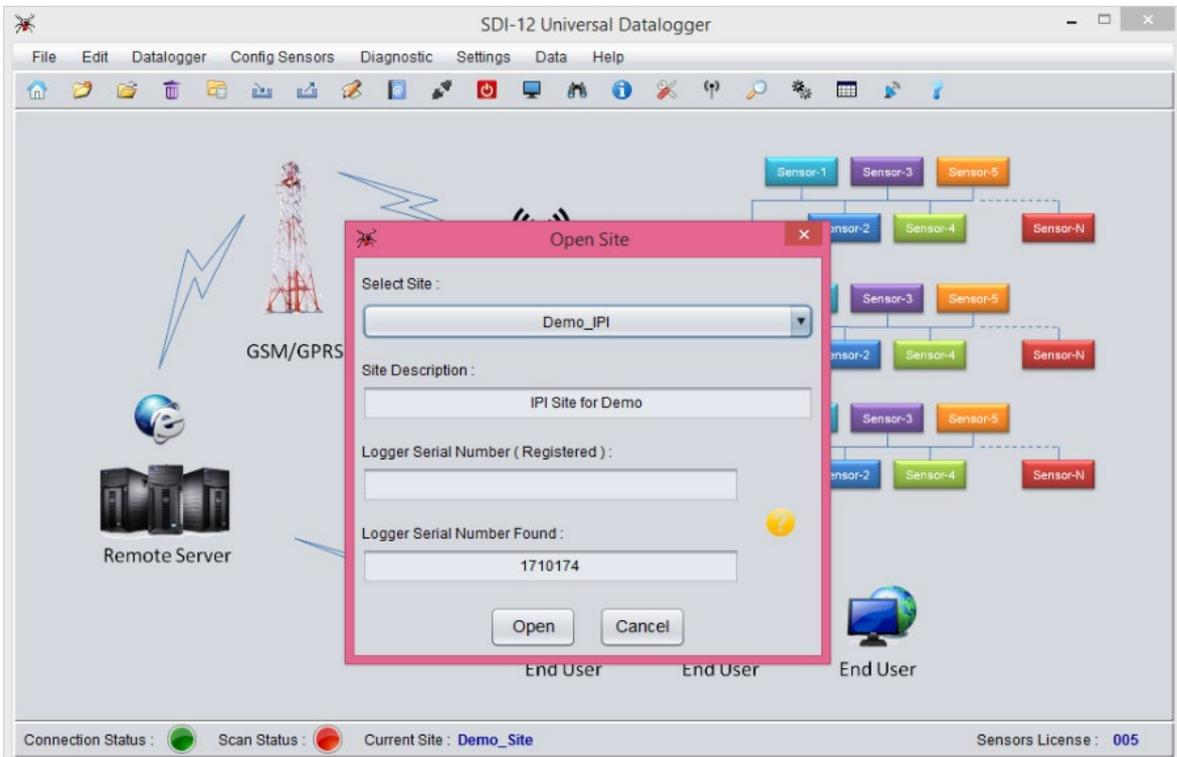
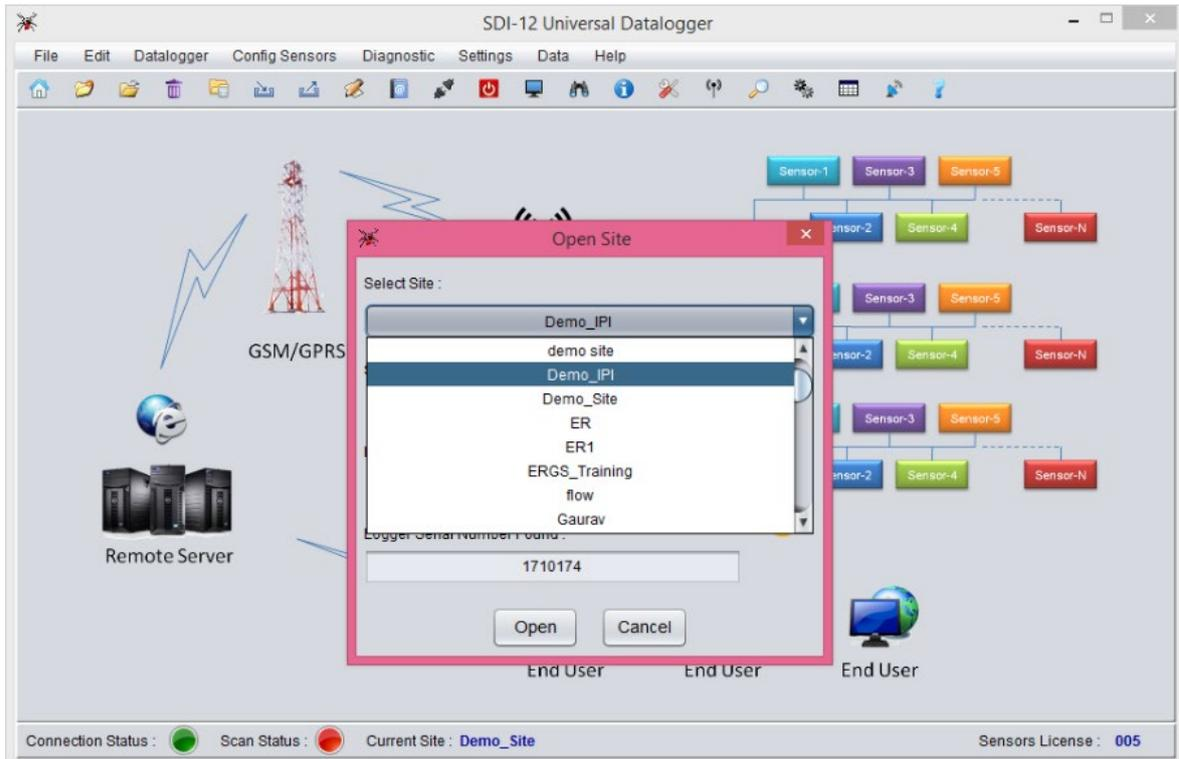

Figure 7-6 Open site window of EDSL-30UNI Configuration Manger Software
Figure 7-7 Open site window with dropdown list of sites of EDSSL-30UNI Configuration Manger Software
- Then the Open Site window will appear automatically. Choose the created site file from "Select Site" dropdown menu and click "Open" (figure 7-6 and figure 7-7)